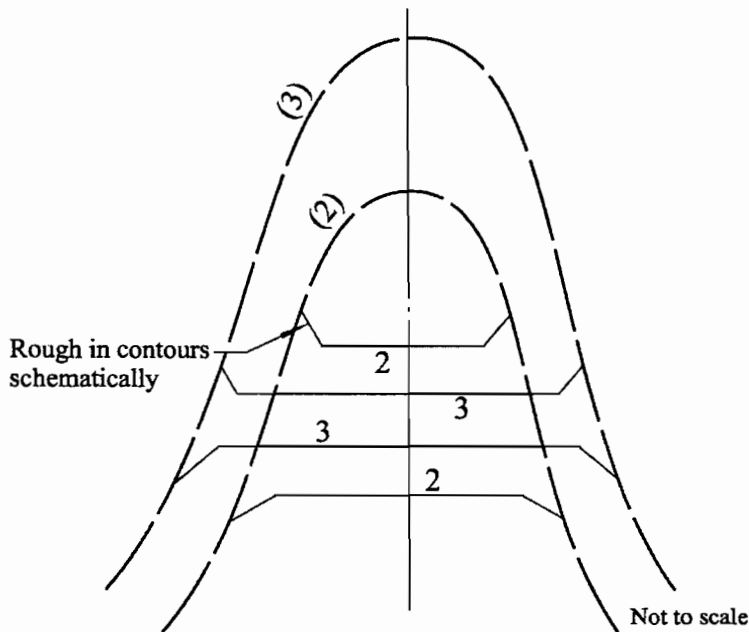

Figure 5-14e, Contours Shown in Their Final Locations Schematically
Step 5 Lightly draw in a schematic representation of the contours as shown in Figure 5-14e. Note that the top two contours join the highest existing contours, and the next contours down join the next lower contours and so on. Drawing these contour lines schematically will help you keep them straight when you hard line your solution.